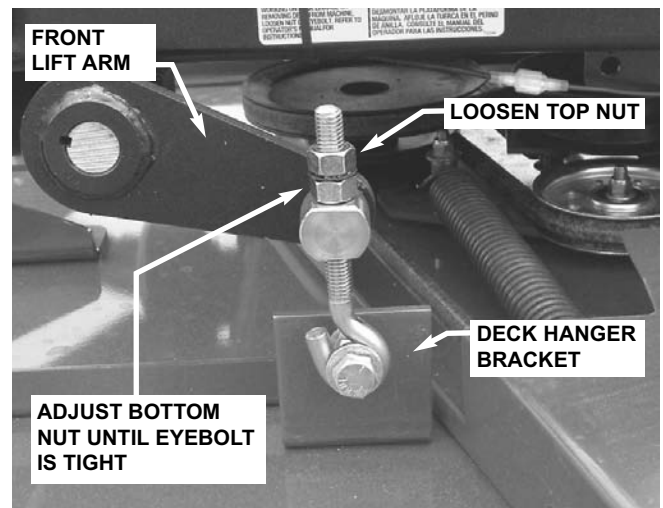

FIGURE 5.5
7. Loosen the top nuts that secure both front deck support eyebolts. Adjust bottom nuts until eyebolts are tight, then retighten top nuts. Torque to 20 to 30 ft. lbs. See Figure 5.5.